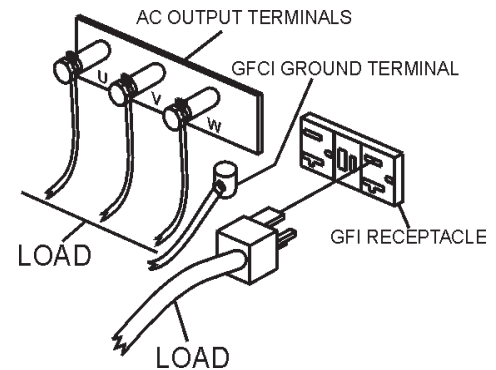

Figure 36. UNV Terminal Lugs (Load)
2. Connect the load to the UVW terminals as shown in Figure 36. These terminals can be found on the output terminal panel, (see page 33 Figure 12). To gain access to the output terminals lift the terminal cover. Tighten terminal nuts securely to prevent load wires from slipping out.